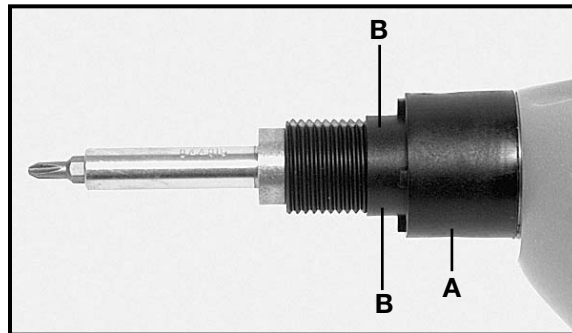

Fig. 5
Periodically, depending on use, screwdriver clutch jaws should be inspected for wear. This may be done by removing the screwdriver mechanism housing (A), Fig. 5, from the power unit.
NOTES: The clutch housing is attached to the power unit with **left-hand** threads. The depth stop assembly may be removed from the clutch housing to expose a set of wrenching “flats” (B), Fig. 5, on the clutch housing. These “flats” permit the use of a wrench to aid in clutch housing removal.